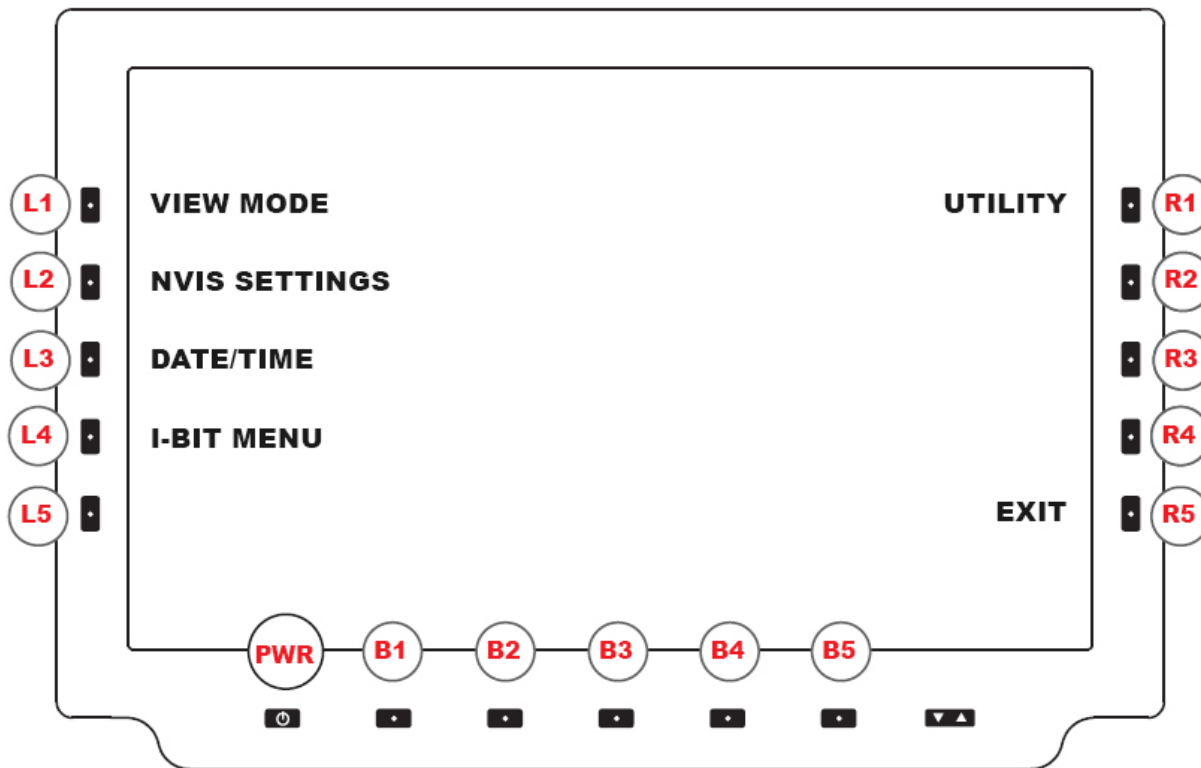
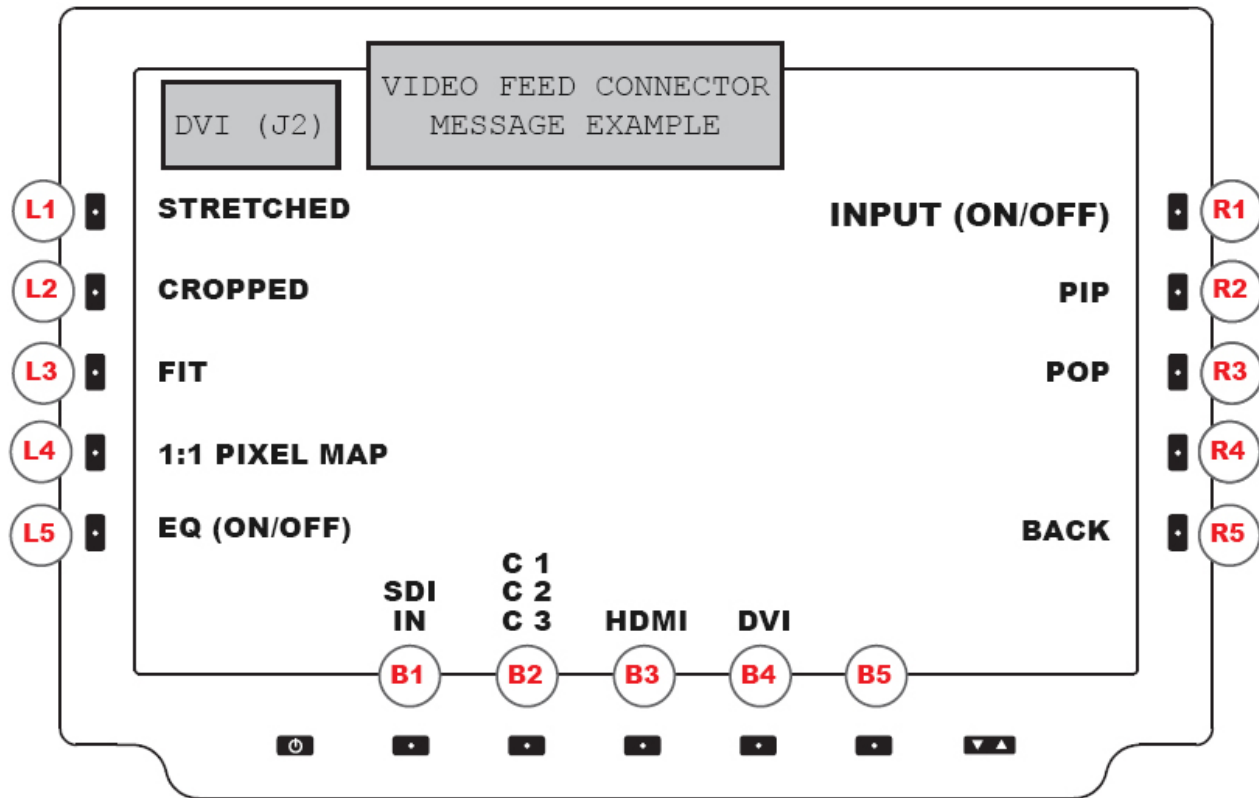

FIGURE 3
FIGURE 4
Several User Menus are factory-set in the DHDW1410. To access the Main Menu (Figure 3) which allows access to DHDW1410's submenus, hold down the POWER button for three (3) seconds.
The Power Button (PWR) is located on the bottom row of softkeys, the first button on the left, as indicated in Figure 3. Other softkeys on the bezel's left and right, are explained in following sections.
In the upper left corner of the screen a popup information window indicates the VIDEO STATUS when feed is changed from one input to another. (See Figure 4).
To enter the VIEW MODE MENU (Figure 4), select L1 from the MAIN MENU (Figure 3). VIEW MODE MENU is dedicated to selecting specific video settings for each physical port. **Note: View settings of individual video feeds are independent of each other.**
BACK (R5). Returns to MAIN MENU (Figure 3).
To enter the PIP (PICTURE-IN-PICTURE) OPTIONS MENU, select PIP (R2) from VIEW MODE MENU (Figure 4). User will determine feeds assigned to a dual-view PIP setting.
BACK (R5). Returns to VIEW MODE MENU (Figure 4).
To enter the POP (PICTURE-OVER-PICTURE) OPTIONS MENU, select POP (R3) from VIEW MODE MENU (Figure 4). User will determine input feeds assigned to a dual-view POP setting.
The NVIS SETTINGS MENU is accessed through L2 from the MAIN MENU (Figure 3), and allows the user to make NVIS viewing color selections.